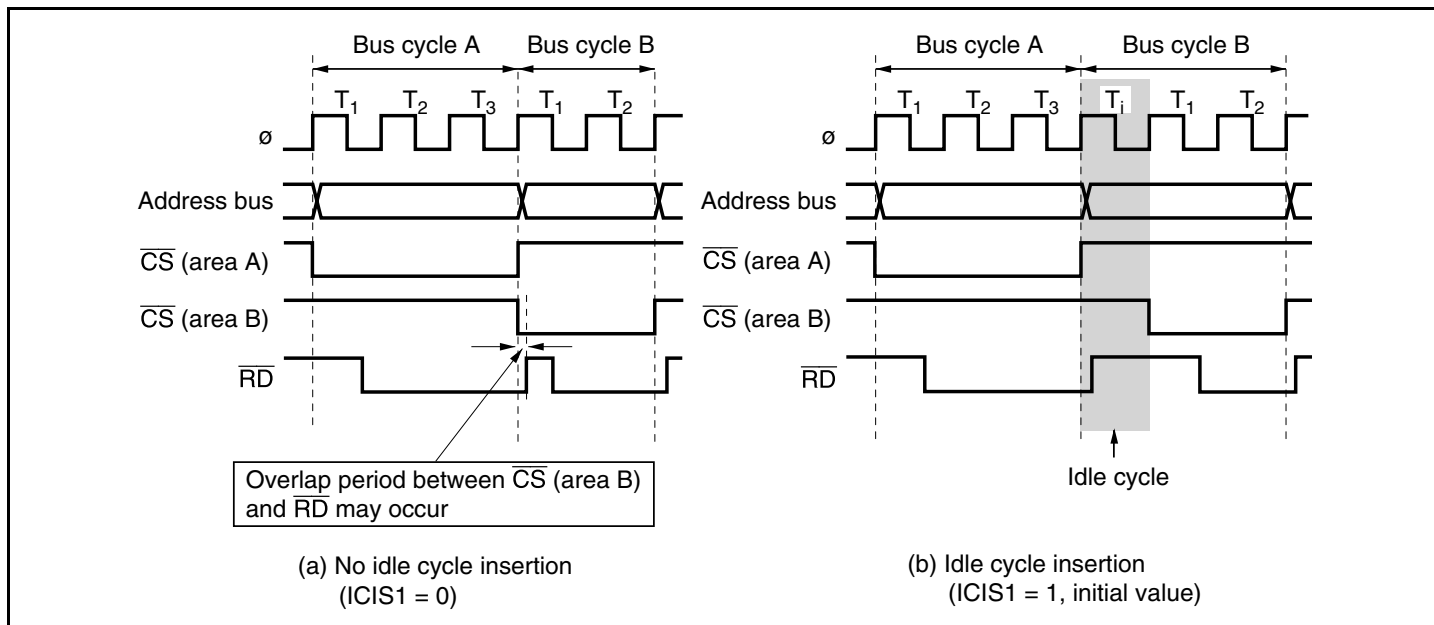

Figure 6.68 Relationship between Chip Select (CS) and Read (RD)
Relationship between Chip Select (CS) Signal and Read (RD) Signal: Depending on the system's load conditions, the RD signal may lag behind the CS signal. An example is shown in figure 6.68. In this case, with the setting for no idle cycle insertion (a), there may be a period of overlap between the bus cycle A RD signal and the bus cycle B CS signal. Setting idle cycle insertion, as in (b), however, will prevent any overlap between the RD and CS signals. In the initial state after reset release, idle cycle insertion (b) is set.